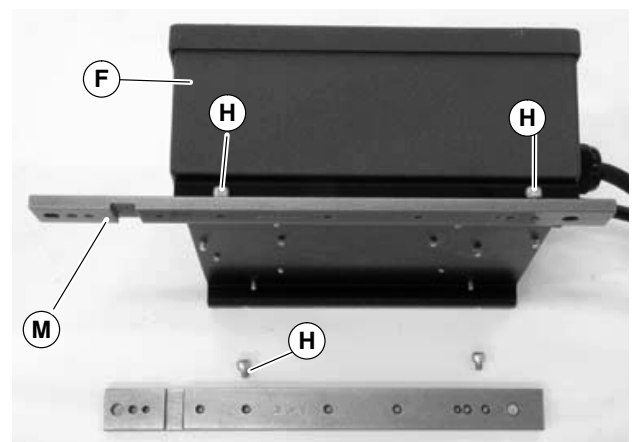

Figure 11
2. Attach mounting bars (M of Figure 11) to controller (F) with screws (H).